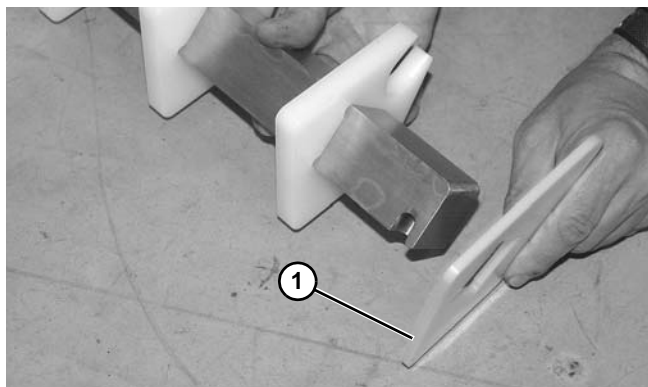

Figure 101
- Remove the tracking puck (Figure 101, item 1) from support bar.